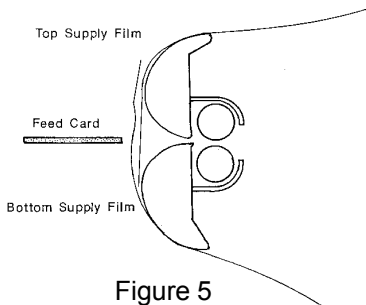

Figure 5
2. Pull 6"-12" of film from the top roll. Pass the film under the idler bar and over the heat shoes. Make sure the shiny side of the film is against the shoes. See Figures 5 & 6 below.
4. Pull 6"-12" of film from the bottom roll. Pass it under the lower idler bar and drape the film from the bottom roll over the film from the top roll. Since the heat shoes are hot the bottom film will adhere to the top film. See Figures 5 & 6 below.